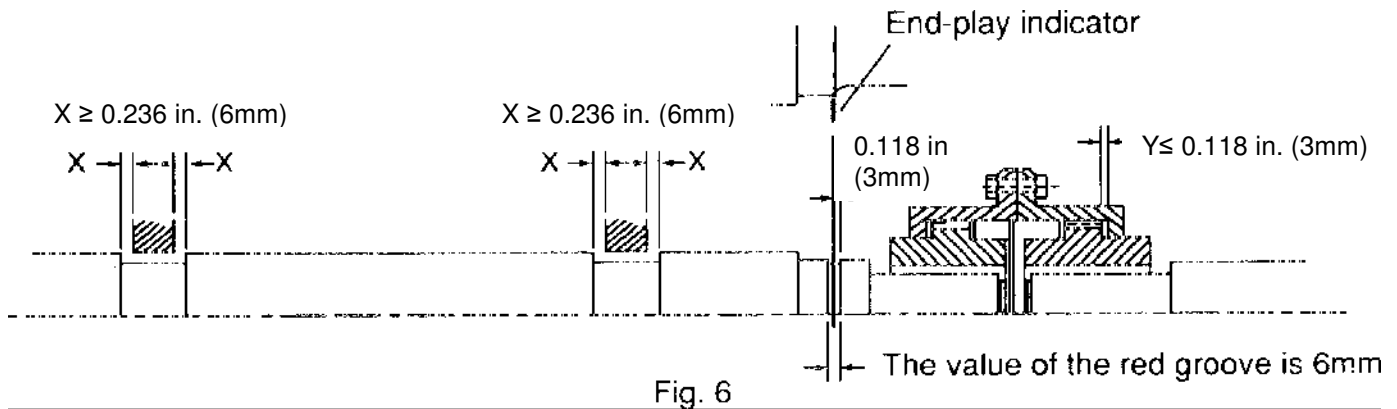

Fig. 6
- Unless otherwise specified, the designed end-play value  $X$  of the groove for TWMC motors in general is within 0.236 in. (6mm) as illustrated in Fig. 6. In essence, the endplay indicator is adjusted to point at the center of the groove or the drive-end shaft shoulder; thus  $X$  equals to  $\pm 0.236 \text{ in. (6mm)}$  so, and the endplay value ( $Y$ ) of the couplings should equal or be smaller than 0.118 in. (3mm).